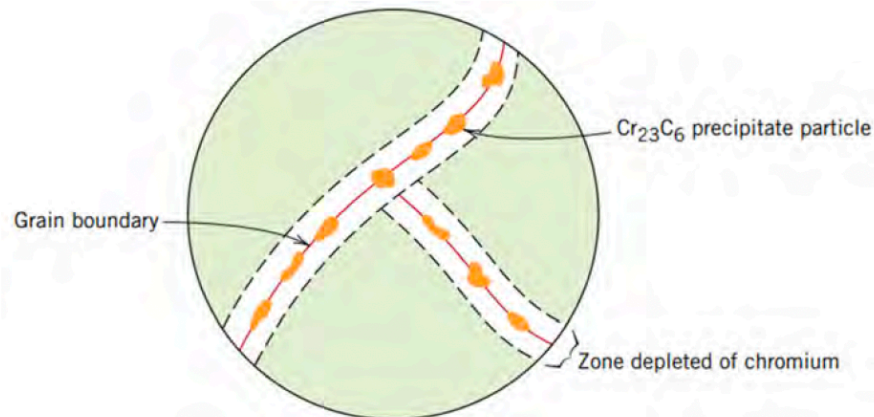

Fig. 5.9: Schematic illustration of chromium carbide particles that have precipitated along grain boundaries in stainless steel.
- **(Fig. 5.9 & 5.10):** Schematic of Cr-depletion and photo of "weld decay."